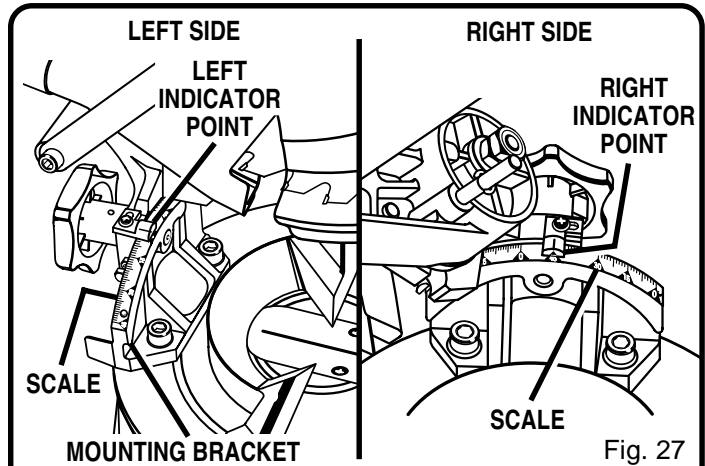

Fig. 27
See Figures 27 and 28.
- For your convenience there is a double scale located on the mounting bracket. See Figure 27. If one side becomes difficult to read as you move the saw arm to the left, simply refer to the other side. Align the indicator point for the side you choose with the desired angle.
- For your convenience there is a double scale located on the mounting bracket. *See Figure 27.* If one side becomes difficult to read as you move the saw arm to the left, simply refer to the other side. Align the indicator point for the side you choose with the desired angle.